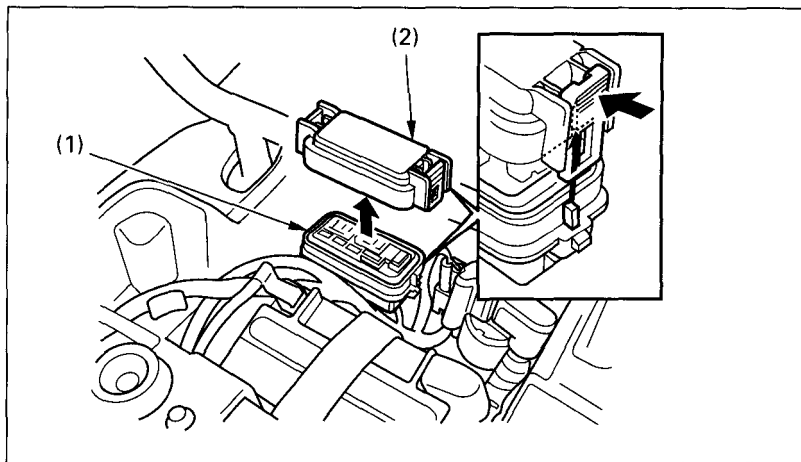

Fig. 4-21
As illustrated in Fig. 4-21, the fuse box (1) is located in the battery compartment. The main fuse, sub fuses and spare fuses are located in the fuse box.